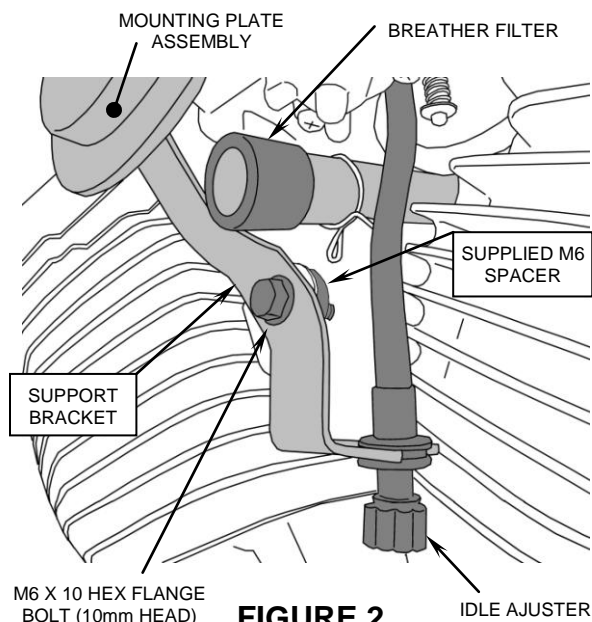

FIGURE 2
6. Insert the supplied breather filter into the larger hose that was disconnected in Step 4 and secure with the stock hose clamp. See Figure 2 for position.
9. Align the installed support bracket with the bracket between the cylinder heads. Insert the (1) supplied M6 x 10mm hex flange bolt (with 10mm head) through the support bracket, cylinder bracket and thread into the supplied M6 aluminum spacer. See Figure 1 and Figure 2. Make sure the small diameter boss on the aluminum spacer is fully engaged into the hole on the backside of the cylinder bracket, then tighten.
11. Attach the idle adjuster to the support bracket retaining tab. See Figure 2.